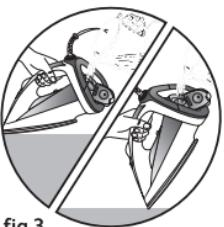

fig.3
- Fill the tank up to the "MAX" line – fig.3.